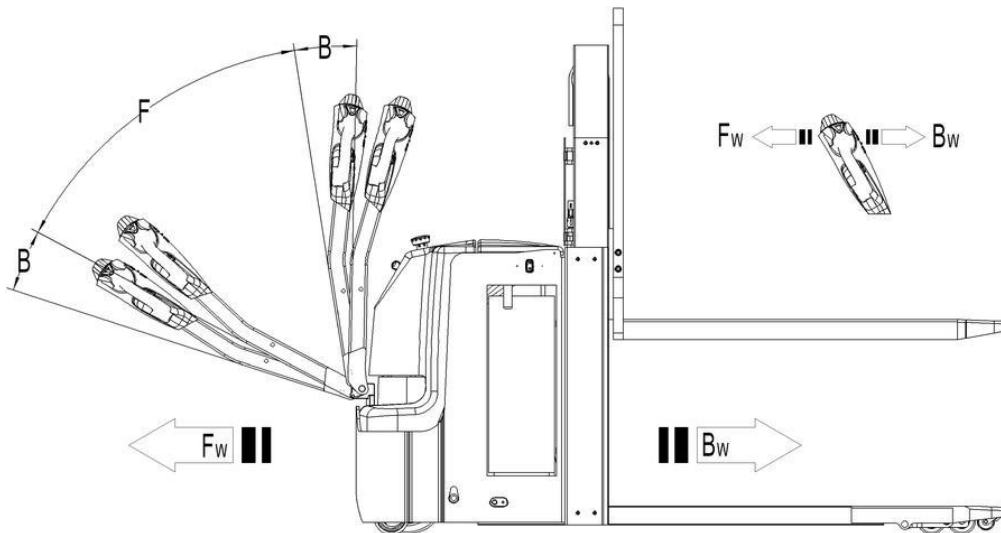

Fig. 10: Operating direction
After starting the truck by turning on the key switch (6), move the tiller to the operating zone ('F', fig.10).
Turn the accelerator button to the desired direction forward 'Fw.' or backwards Bw.'(fig. 10).